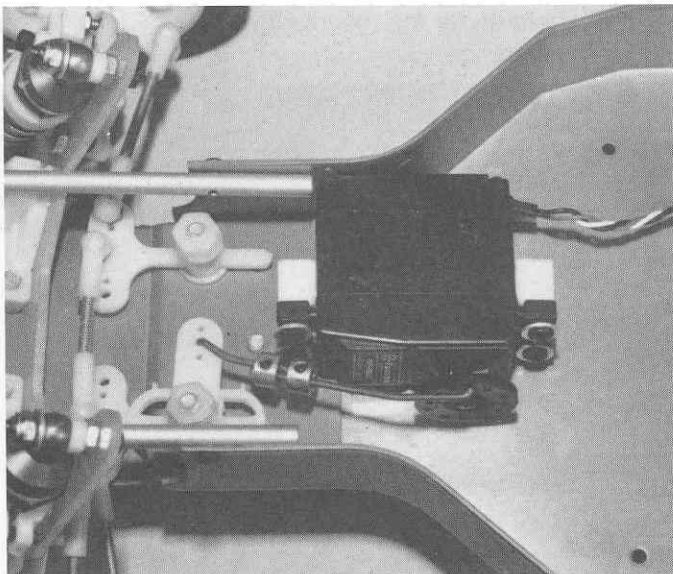

Fig. 145
□ **Fig. 145** Linkage is the same as for small servo but may require slightly more bend.